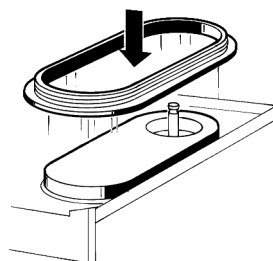

figure 7
4. Fit the bowl gasket to the evaporator. Note: the larger brim of the gasket must face against the drip plate (see figure 7).